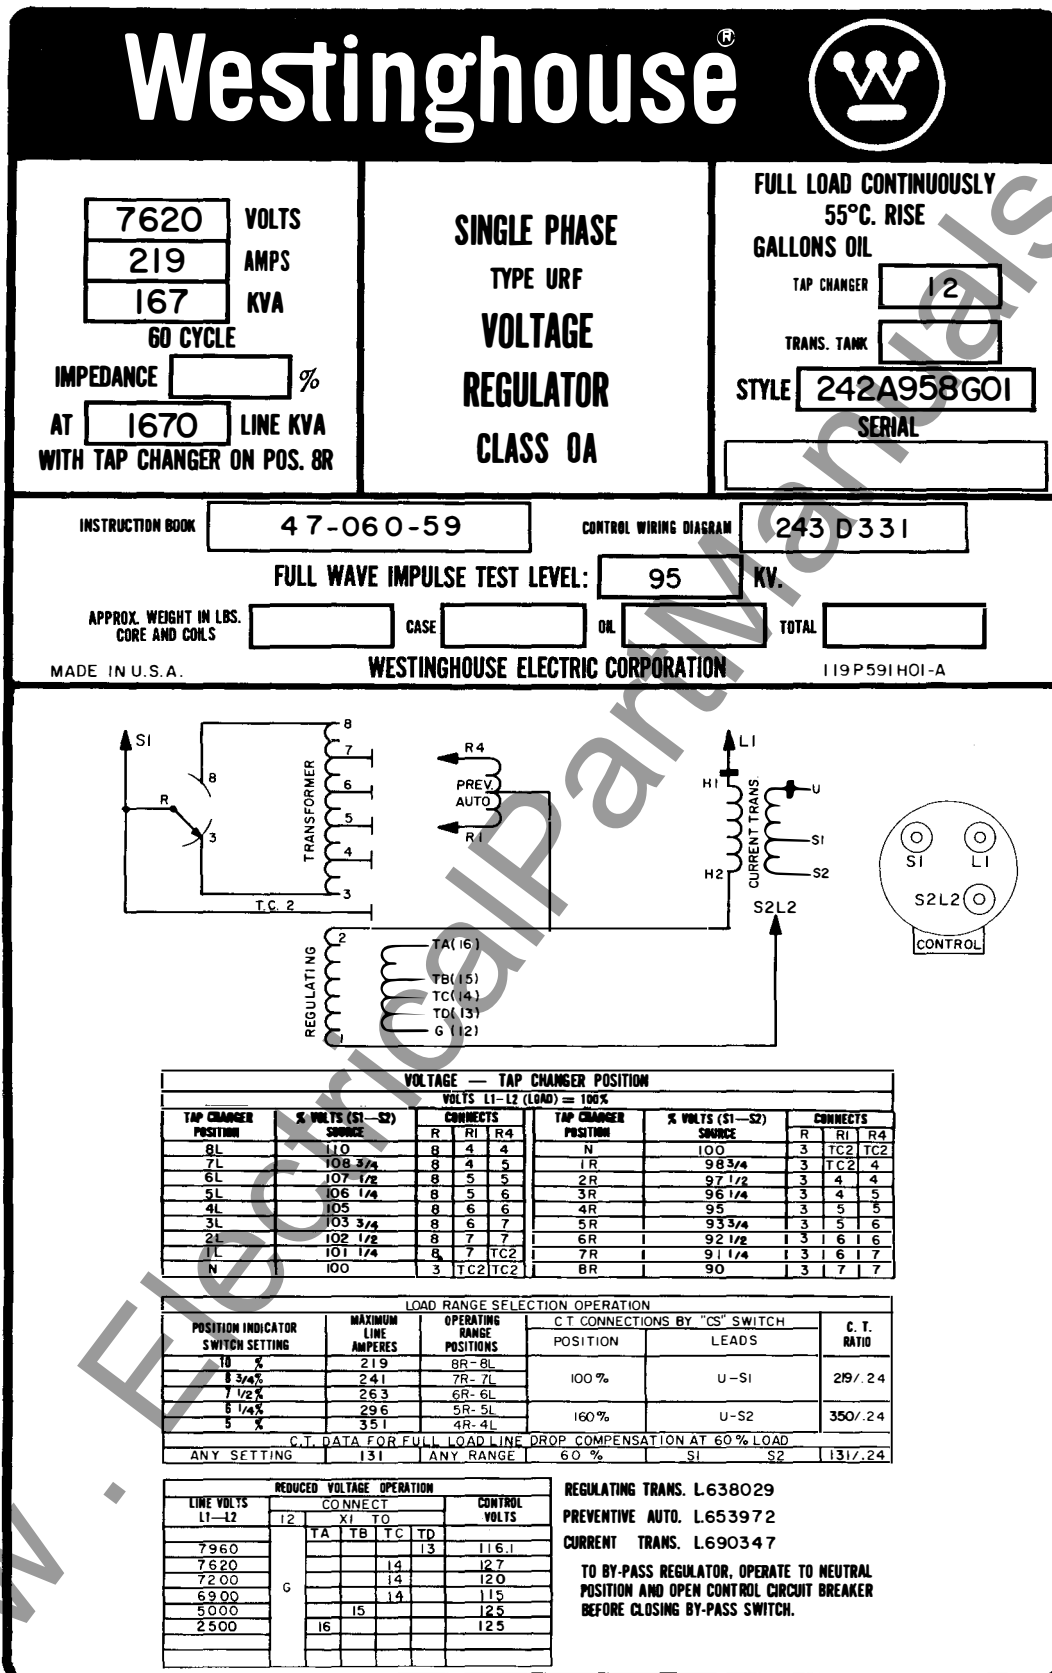

Fig. 6 - A Typical Nameplate
When the tap changer is on the "Lower" positions, the reversing switch connects lead TC2 to lead 8. On "Neutral" and in the "Raise" positions the reversing switch connects TC2 to 3. The reversing switch changes from 3 to 8 while both selector switches are on tap number TC2 so that the reversing switch does not break load current. (See Figure 6.)
3. The URF Regulator is shipped with the tap changer on neutral position. The internal connections for various tap changer positions are shown on the nameplate located in the control cabinet. Figure 6 shows a typical nameplate.
control voltage ratios are indicated on the regulator nameplate inside the control cabinet. See Figure 6, page 12, for a typical nameplate.